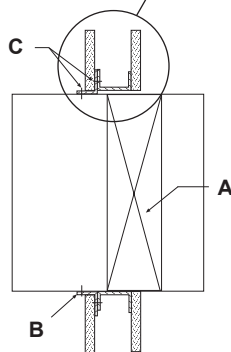

Figure 3: Under Drywall Installation (Metal Stud Only)
- B. Vertical:** Single-side mounting angles shall be a minimum of 3/4" x 1-1/2" tall x 20 gauge (19 x 38 x 1.0) steel. For metal stud partitions only, the single-side mounting angles may be attached to the metal stud prior to installation of the drywall. See Figure 3.